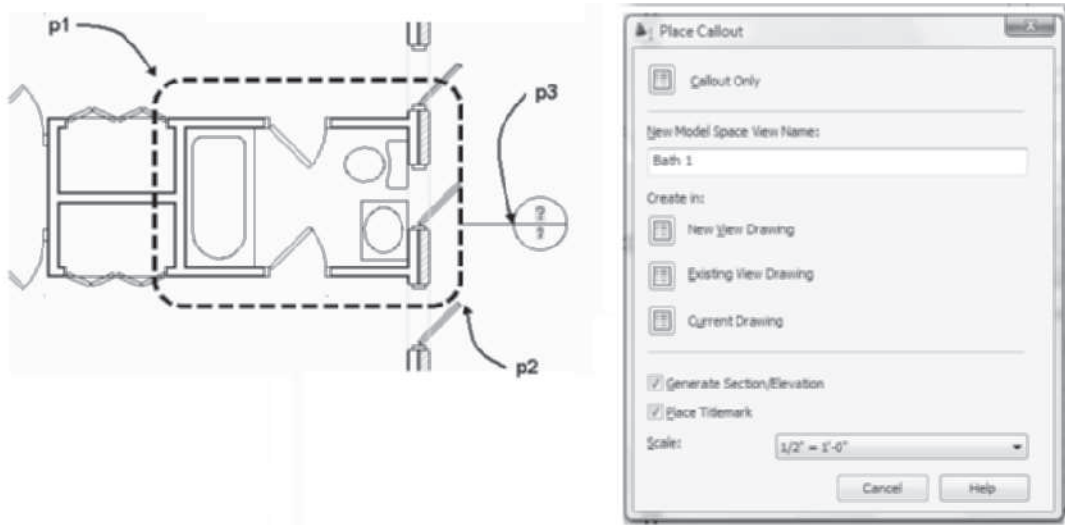

FIGURE 12.34 Defining the boundary of the detail
Specify one corner of detail box: (*Select a location, p1, as shown in Figure 12.34.*)
Specify opposite corner of detail box: (*Select a location, p2, as shown in Figure 12.34.*)
Specify first point of leader line on boundary: (*Select a location, p3, as shown in Figure 12.34.*)
2. The Place Callout dialog box opens as shown in Figure 12.34. Type a name (Bath 1) in the New Model Space View field.